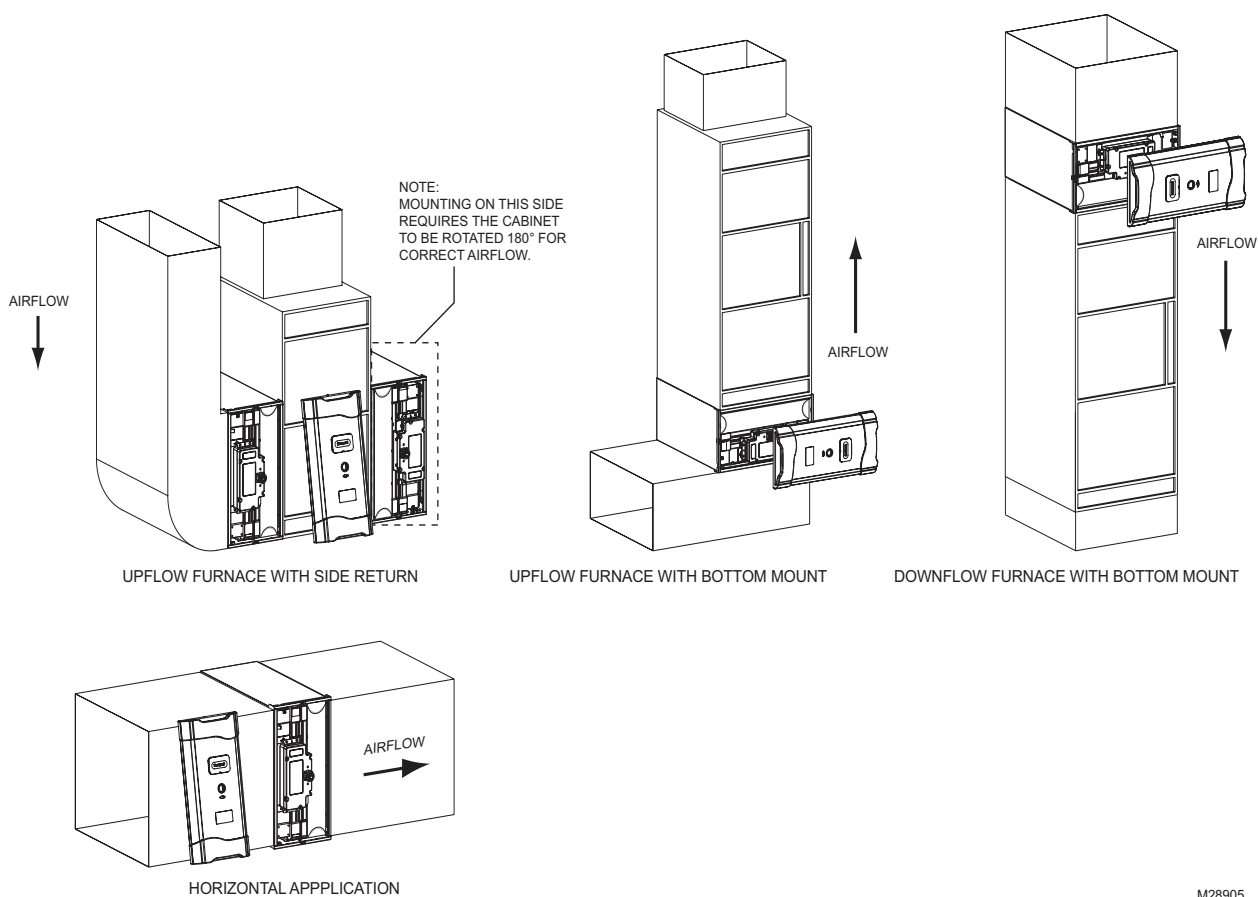
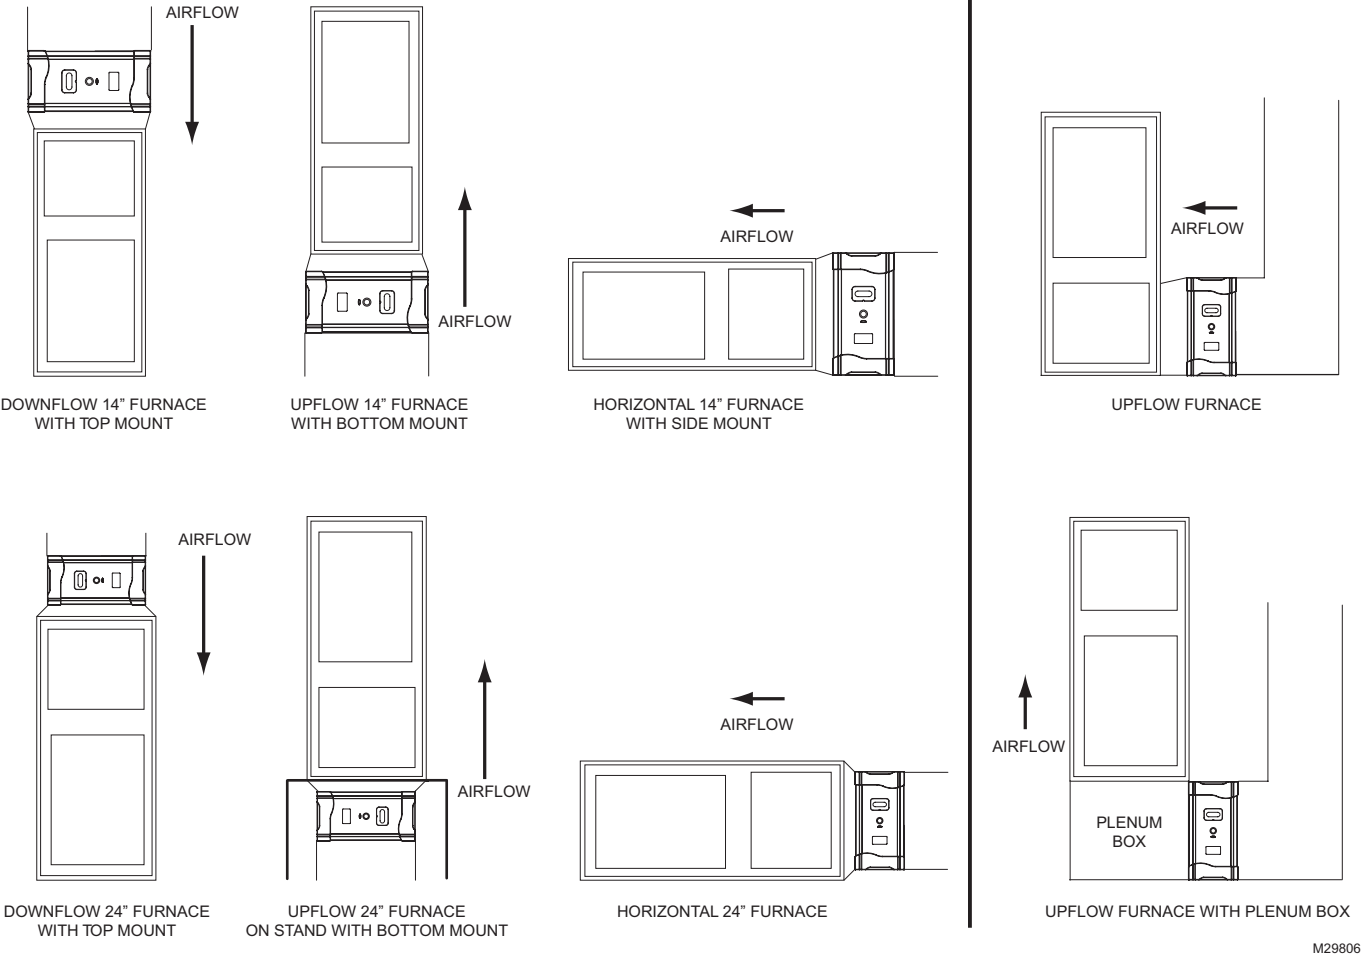
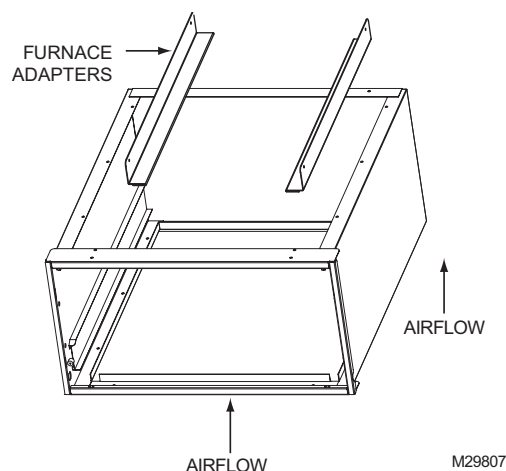
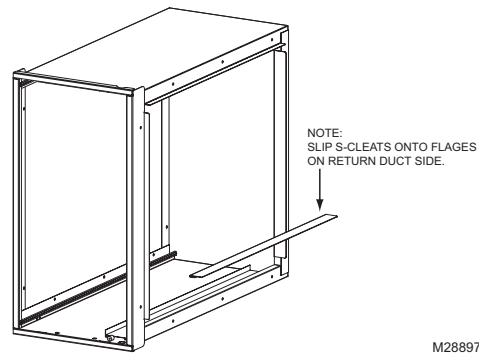

Fig. 7. Cabinet Orientation for 1625/2025 models.
Fig. 8. Cabinet Orientation for 1625/2025 with Transition.
Fig. 9. Use of Furnace Adapters.
Fig. 10. Use of Return Duct Adapters.
- Identify a mounting orientation for the Honeywell Enhanced Air Cleaner in the return air duct. See Fig. 7 and Fig. 8 on page 11.
- d. Position the cabinet between the furnace and return air duct (see Fig 7 on page 10, Fig. 8 on page 11, Fig. 9, and Fig. 10 on page 13). A transition duct may be required.
- e. Furnace adapters have been included for installer convenience. They are designed for top or bottom mount installations (see Fig 9).
- f. Return air duct adapters have been included for installer convenience. They should be used to connect the upstream side of the Honeywell Enhanced Air Cleaner cabinet to the return air duct (see Fig. 10).